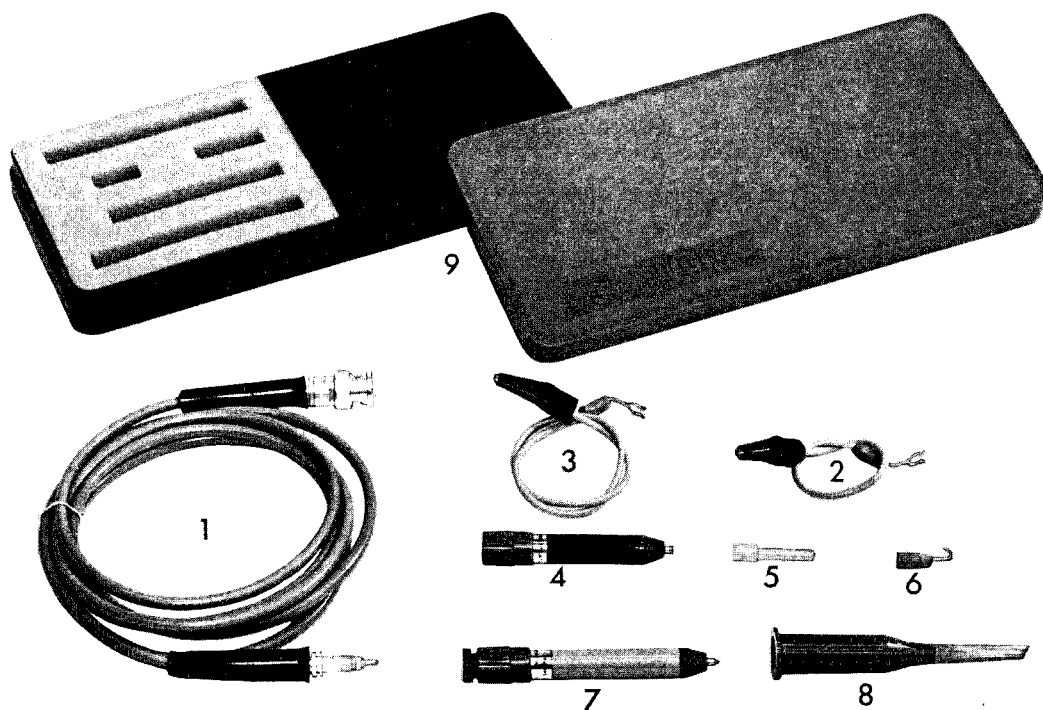

Fig. 18. Attenuator probe set PM 9326 (PM 9327)
3.7.5. Attenuator probe sets PM 9326 and PM 9327 (Fig. 18)
1 probe cable	Fig. 18, item 1
1 earth lead 15 cm	Fig. 18, item 2
1 earth lead 30 cm	Fig. 18, item 3
1 measuring probe 1:1 (black)	Fig. 18, item 4
1 test pin	Fig. 18, item 5
1 test hook	Fig. 18, item 6
1 attenuator probe 1:10 (grey)	Fig. 18, item 7
1 test clip	Fig. 18, item 8
1 box	Fig. 18, item 9